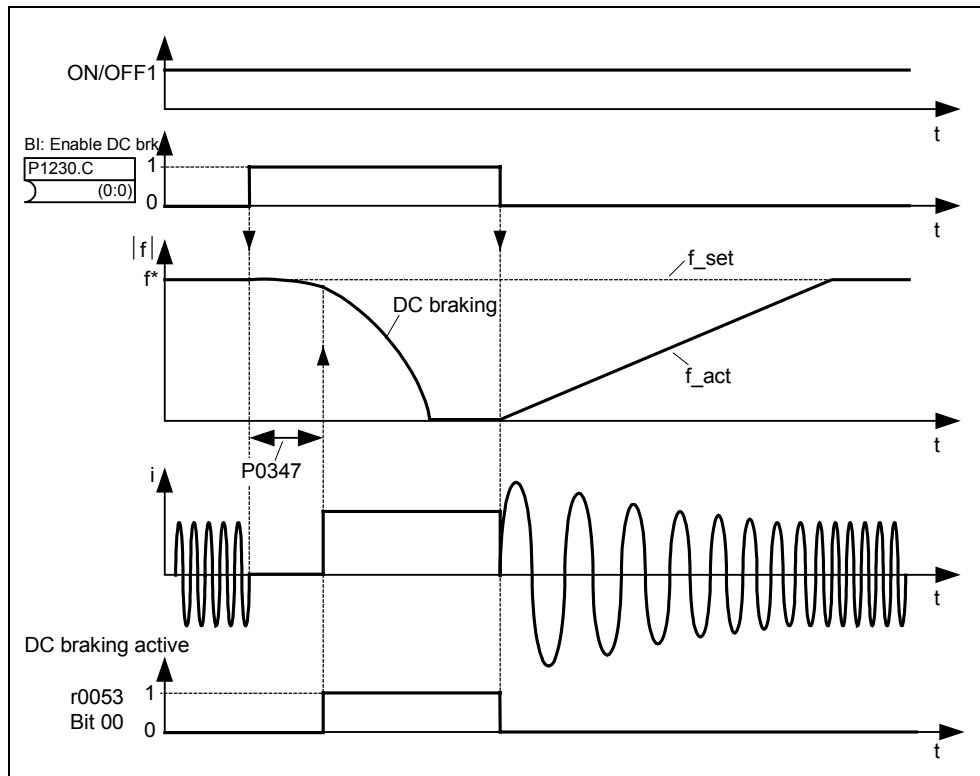

Fig. 3-53 DC braking after external selection
**Sequence ②**
1. Enabled and selected using BICO parameter P1230 (refer to Fig. 3-53)